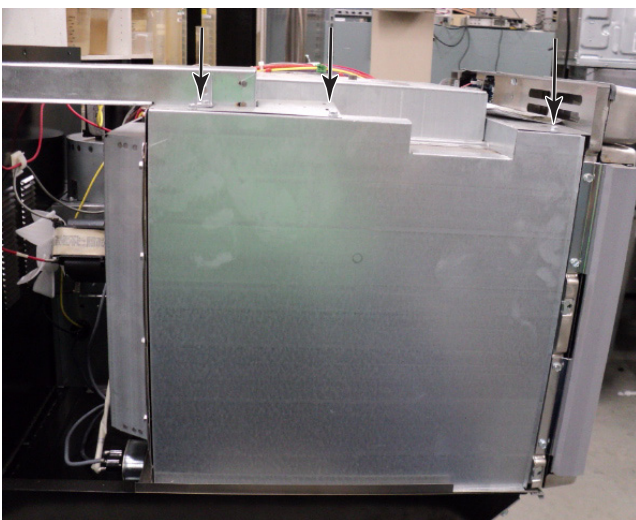

Figure 13
15. Remove three hex head screws from top insulation retainer on left side of unit (Figure 13).